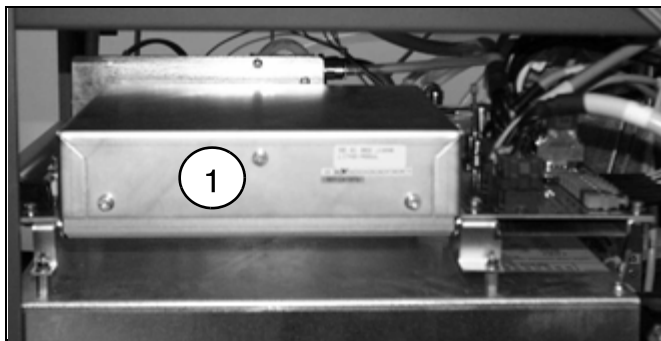

Fig. 51: Controller 1
- Remove the controller cover (1/Fig. 51 / p. 49).
- Reattach the controller cover (1/Fig. 51 / p. 49).